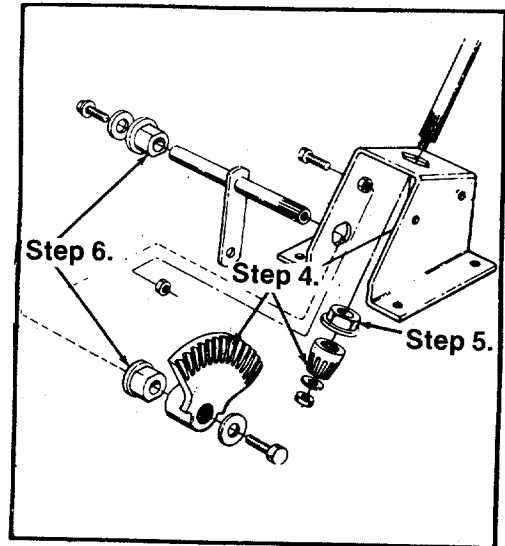

FIGURE 21.
4. **Steering Gears (2).** Lubricate teeth of gears with automotive multi-purpose grease after every 25 hours of operation or once a season. (See figure 21.)
5. **Steering Column Bearings (2).** Lubricate the top and bottom bearings with SAE 30 oil after every 25 hours of operation or once a season. (See figure 21.)
6. **Steering Shaft Bearings (2).** Require no lubrication. (See figure 21.)